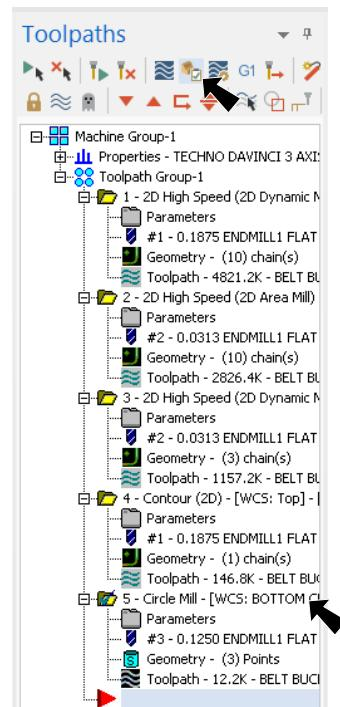

Fig. 101
Step 1. Click Verify  in the Toolpaths Manager, Fig. 101.
Step 2. Click Play  (R) in VCR bar.